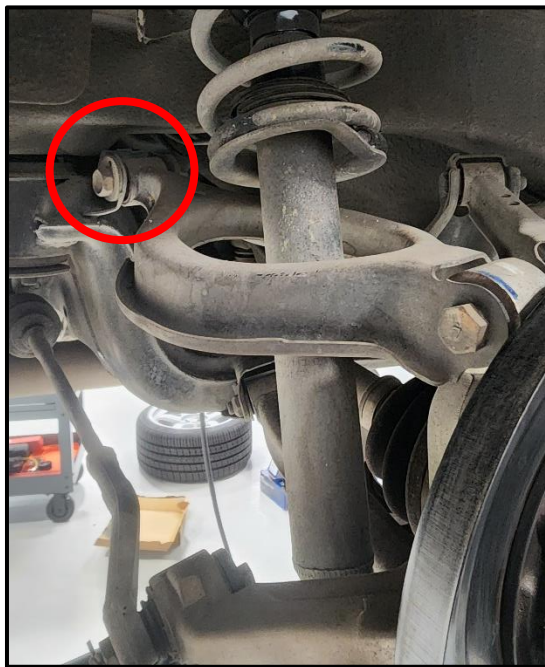

Figure 4
10. Remove the nut and bolt securing the Upper Control Arm to the Inner Mount on the Cradle and discard hardware. *Figure 4.*